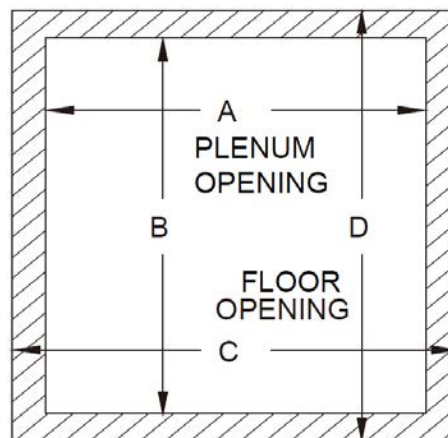

Figure 3.3a
2. Construct a hole in the floor according to requirements in Table 3.3 and Figure 3.3a.
3. Construct plenum to dimensions specified in Table 3.3 and Figure 3.3a.